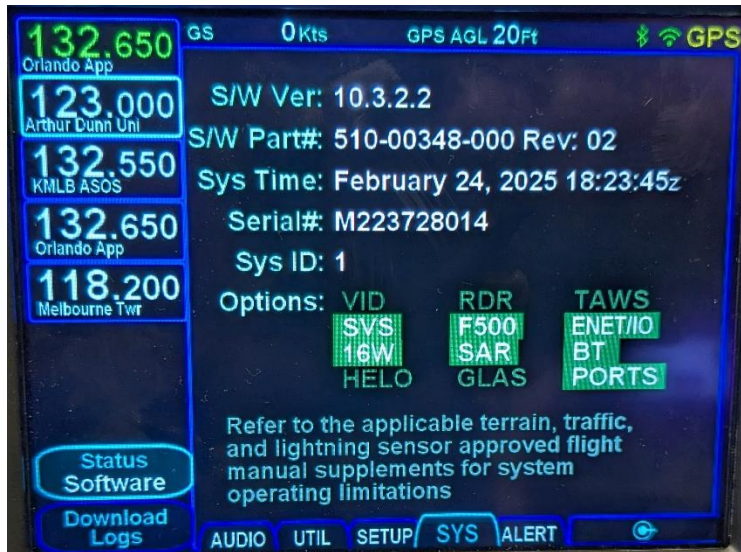

Figure 5-1: IFD Software Verification Page
3. If the S/W Version is older than 10.3.2.2, update the software to 10.3.2.2 or later revision as is displayed in Figure 5-1.